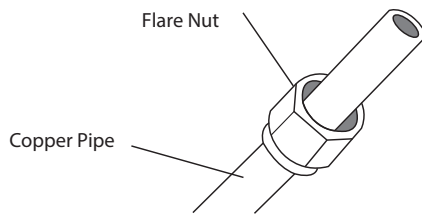

Fig. 7.6
3. Place flare nuts on both ends of pipe. Make sure that they are facing the correct direction, because they cannot be put on or have their direction changed after flaring. See Fig. 7.6